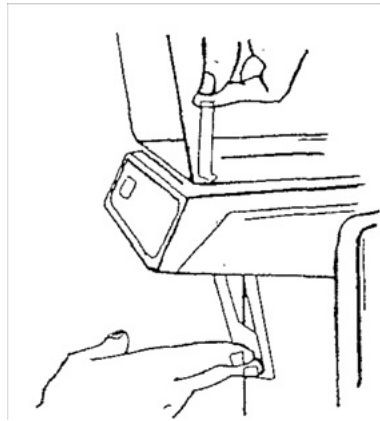

Figure 9.
- D. Carefully insert pinch tube into the bowl spout opening and on into lower opening of the handle support spout. Make sure the end of the tube does not get caught on the edge above the handle support spout opening. Pull the end of the tube to seat it firmly into the bowl spout seat. Make sure the tube is free of wrinkles and extends below the support spout about a 1/4 inch See Figure 9.